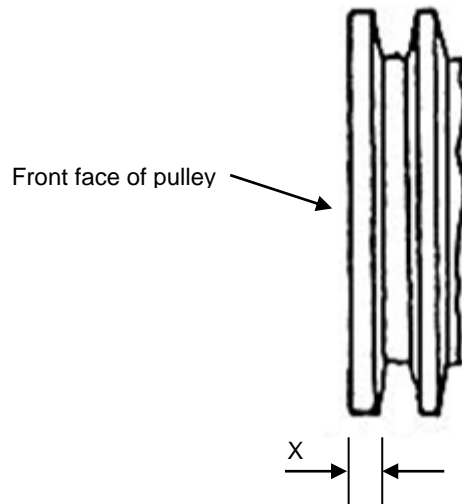

FIG 14.
- (Fig 14)
Proceed as follows to allow for the difference: (Fig 14)